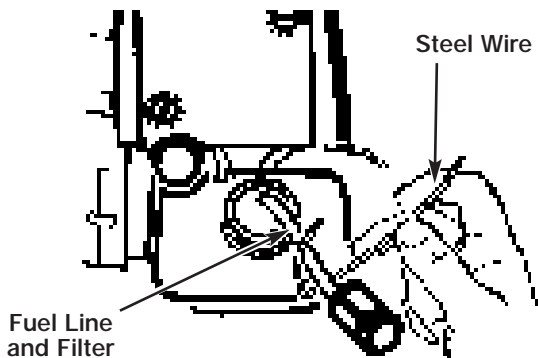

Fig. 23
1. Lift the fuel line and filter out of the tank. Use a steel wire with a hook or a paper clip (Fig. 23).